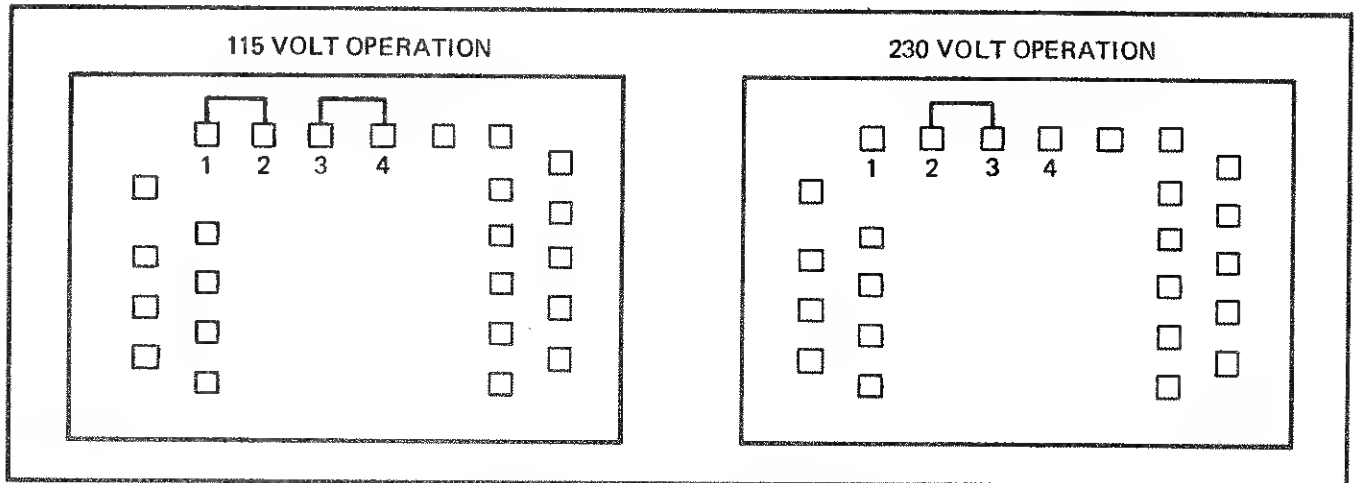

Figure 4-4. 115/230 VOLT CONVERSION
- c. Orient the instrument and perform the appropriate electrical connections as shown in Figure 4-4.